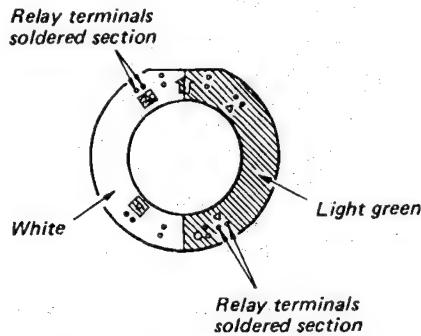

Fig. 1-3-12 Head relay P.C. board
- Unsolder the relay terminals (at the delta marks, 2 pairs – in total 4 locations) on the head relay P.C. board. The solder will be removed easily using a desoldering wire (Fig. 1-3-12/1-3-13).
- Remove two screws (A) and remove the upper cylinder assembly.
- Align phases of the white part of Head relay P.C. board and Rotary transformer (A) P.C. board and then mount the upper cylinder.